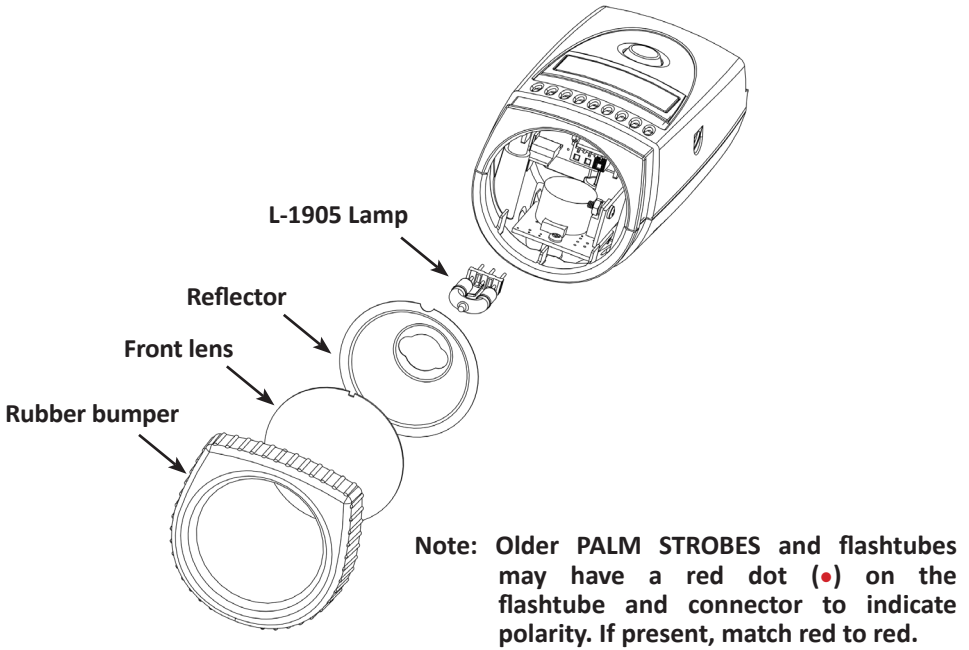

Figure 6 Lamp Replacement
1. To gain access to the lamp, it is only necessary to remove the front lens and reflector, which are held in place by the rubber bumper (see Figure 6). Pull the rubber bumper off the end of the unit. While it is not necessary to remove the reflector, it is held in place by the front lens and will come loose.
- Using a lint-free cloth, insert the new lamp by gently rocking the lamp while pushing it into place matching any polarity (if present, see Figure 6). Make sure the lamp is in straight and centered in the reflector opening.
- Reinstall the reflector (if necessary) and then position the front lens in place matching up the notches on the lens with the two small tabs on the housing to prevent lens rotation (see Figure 6). Stretch the rubber bumper over the top and bottom case halves to seal in the reflector and front lens.